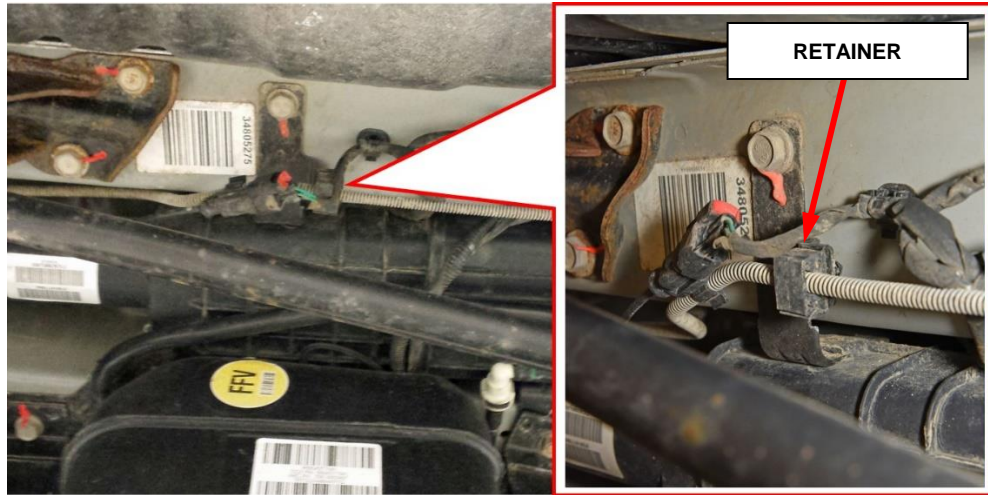

Figure 7 – Brake Tube Retainer
40. Release the brake tube retainer from the vapor canister bracket (Figure 7).
NOTE: Brake tube may need to be guided past vapor canister bracket (Figure 7).